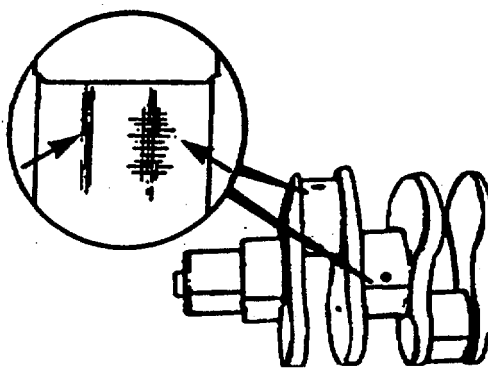

FIGURE 4-64. Inspecting Rod and Main Journals.
- d. Inspect the rod and main journals for deep scoring, overheating, etc. As shown in FIGURE 4-64.